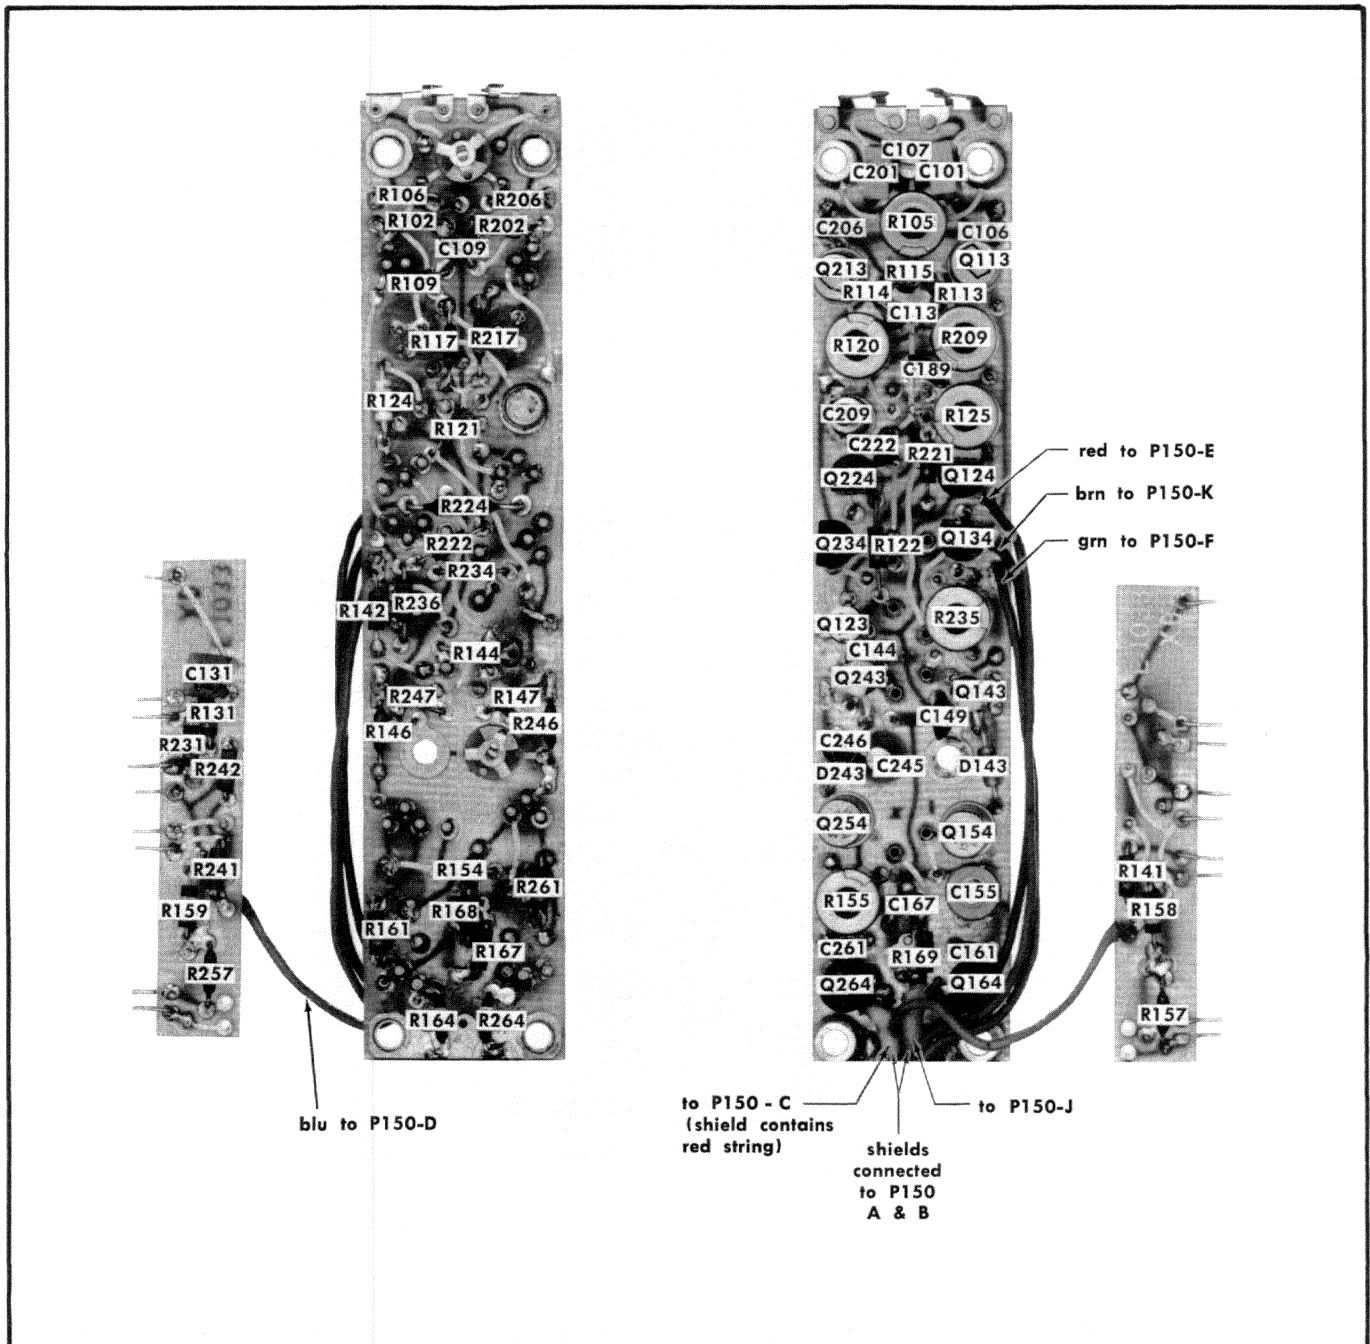

Fig. 4-6. P6046 Probe circuit board component locations.
Component locations and wire color code appear in Fig. 4-6. Transistor installation information appears in Fig. 4-3.
Circuit board component layout and wire color code is shown in Fig. 4-6.
**Replacement.** Observe the color coding given in Fig. 4-6. The length of the cable shields between the cable and the circuit board must be kept as short as possible. The teflon heat-insulating sleeves must be in place over the insulation on the signal output leads before the shield wires are soldered to the board. The hexagonal nut which holds the strain relief boot should be located at the extreme end of the cable insulation, putting it approximately  $\frac{1}{32}$  inch from the large circuit board. Push the plastic cable clamp up against the nut assembly, matching the clamp notches with the keys on the nut assembly. Hold the nut assembly in place and screw on the strain relief boot assembly.
**Replacement.** Observe the color coding given in Fig. 4-6 when re-connecting wires. Keep the soldered connections neat. Re-assemble in reverse order, insuring that the notch in the contact assembly straddles the key located in the housing.